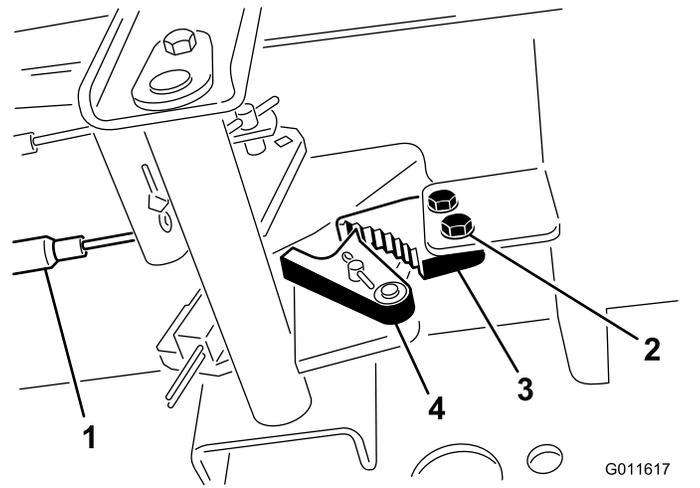

Figure 115
3. Press the parking-brake pedal forward until the brake detent completely engages on the brake pawl (Figure 115).
2. Loosen the 2 screws securing the parking-brake pawl to the frame (Figure 115).